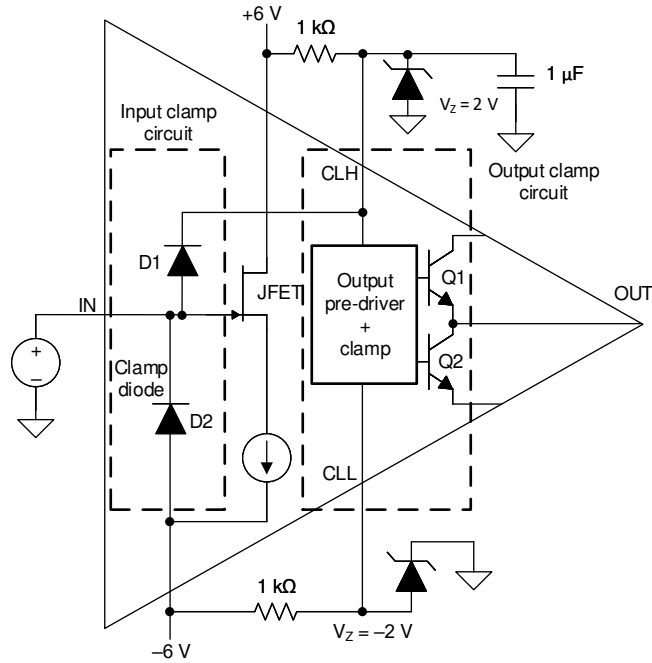

图 8-2. Internal Input and Output Over-Voltage Clamp
- 图 8-2 shows the input of the BUF802 tied to pins CLH and V_{S-} through two internal clamp diodes, D1 and D2. The diodes are rated for 100 mA of continuous current but can withstand much higher transient currents. If the JFET input voltage exceeds the voltage at CLH or V_{S-} , the diodes get forward biased, clamping the JFET to CLH and V_{S-} . A $1\ \mu\text{F}$ capacitor connected in parallel to the zener diode, helps in transient absorption travelling through the D1 diode.